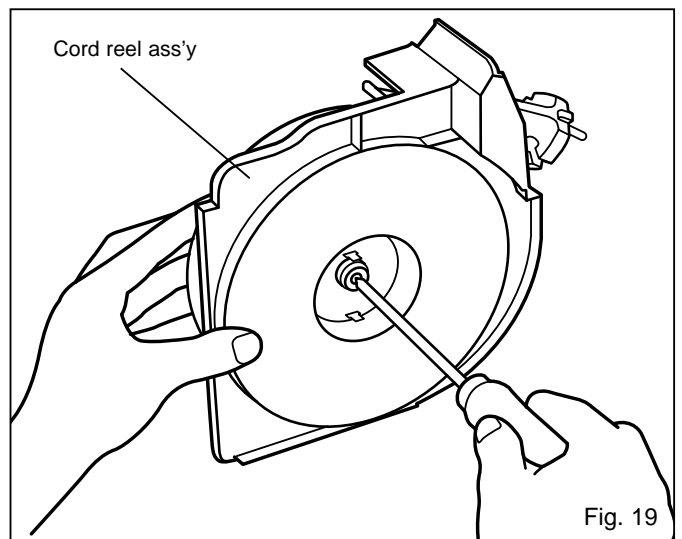

Fig. 19
1. Remove upper body and cord reel ass'y as explained previously in paragraph (1) "Motor", points 1-4.
2. Before removing the screw that fix the cord reel unit and cord reel support unwind the power cord to release the cord reel spring efficiency. Then remove the screw. (Fig. 19)